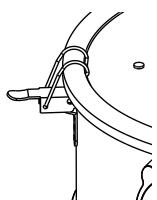

Fig 4
- Secure the power head back on the container, using the latches (Fig. 4).